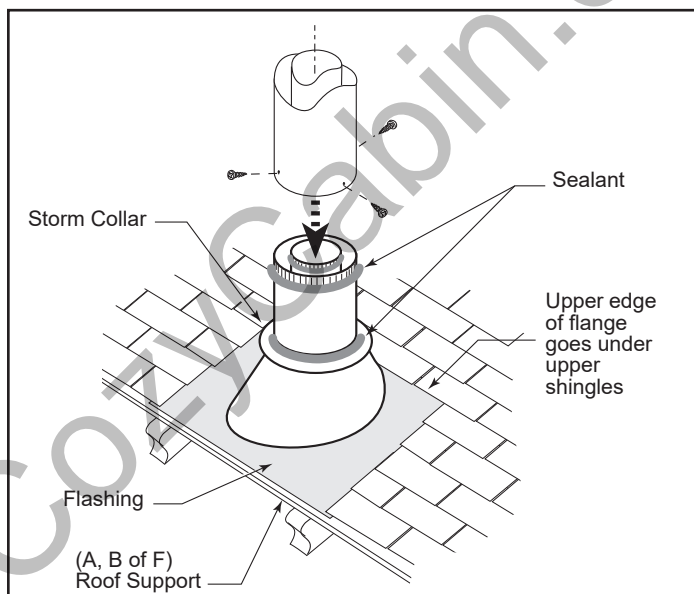

Figure 31 - Roof support and flashing.
7. Install the appropriate roof support and flashing, making certain that the upper flange of the flashing base is below the shingles. (Figure 31)
9. Install the storm collar and seal around the joints. (Figure 31)